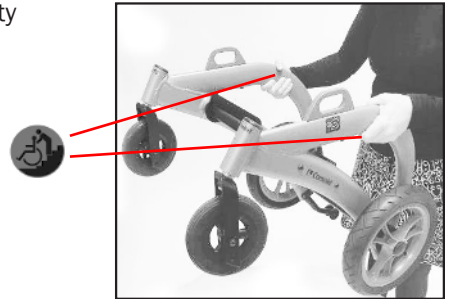

Fig. 14
1. To safely lift or carry the Flyer, grasp the curved side mobility base tubes using two hands, keeping clear of wheels and accessories. Fig. 14